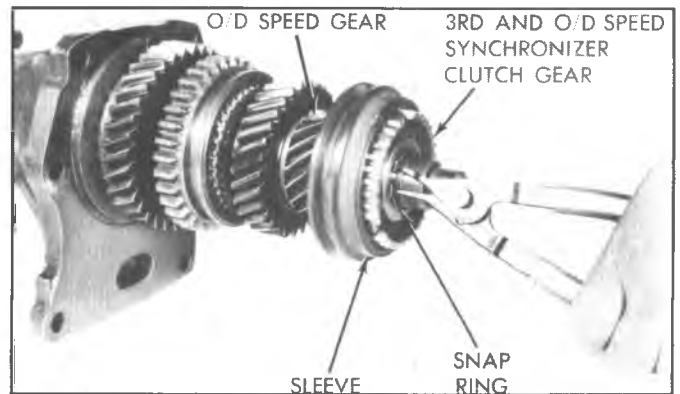

Fig. 8R--Disassembling Mainshaft
1. Remove snap ring that retains 3rd and O/D synchronizer clutch gear and sleeve assembly. Then slide 3rd and O/D synchronizer assembly off end of mainshaft. Refer to Fig. 8R.
7. Install 3rd-O/D synchronizer clutch gear assembly on mainshaft (shift fork slot toward rear) against O/D gear. Be sure to index rear stop ring with clutch gear struts. Install retaining snap ring. Refer to Fig. 8R.